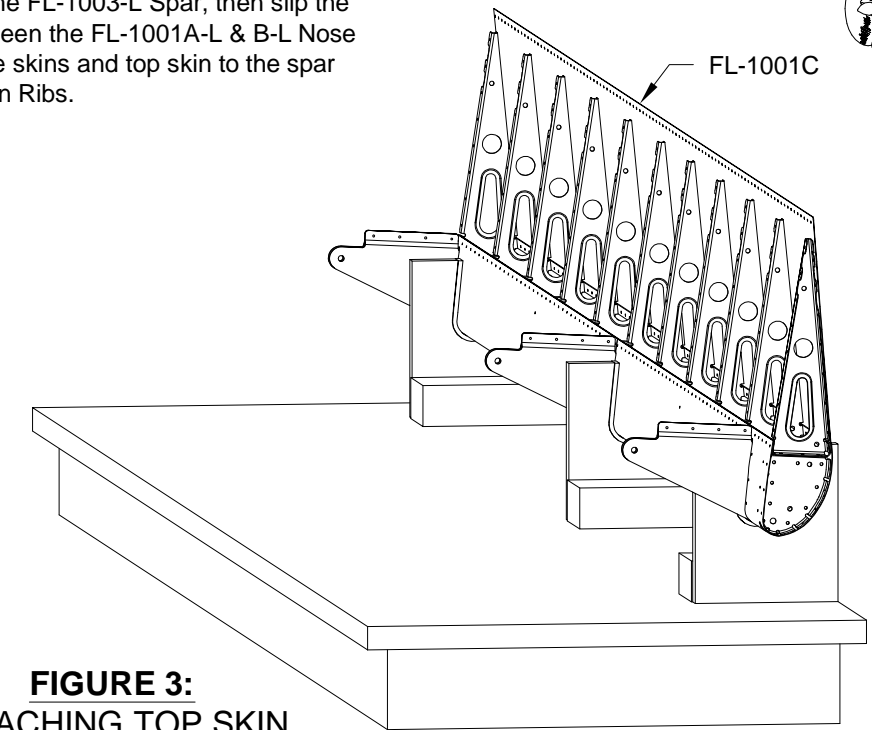

FIGURE 3: ATTACHING TOP SKIN
Step 3: Put the flap in the cradles as shown in Figure 3. Remove the clecos along the top flange of the FL-1003-L Spar, then slip the FL-1001C Top Skin into place between the FL-1001A-L & B-L Nose Skins and the spar. Cleco the nose skins and top skin to the spar and FL-1005-L and FL-1005-R Main Ribs.
Step 5: Rivet the FL-1001C Top Skin to the FL-1005-L and FL-1005-R Main Ribs. Don't, however, install the two aft-most rivets (AN426AD3-3's, see Page 22-9, Figure 3) in each main rib; these will be back driven later.